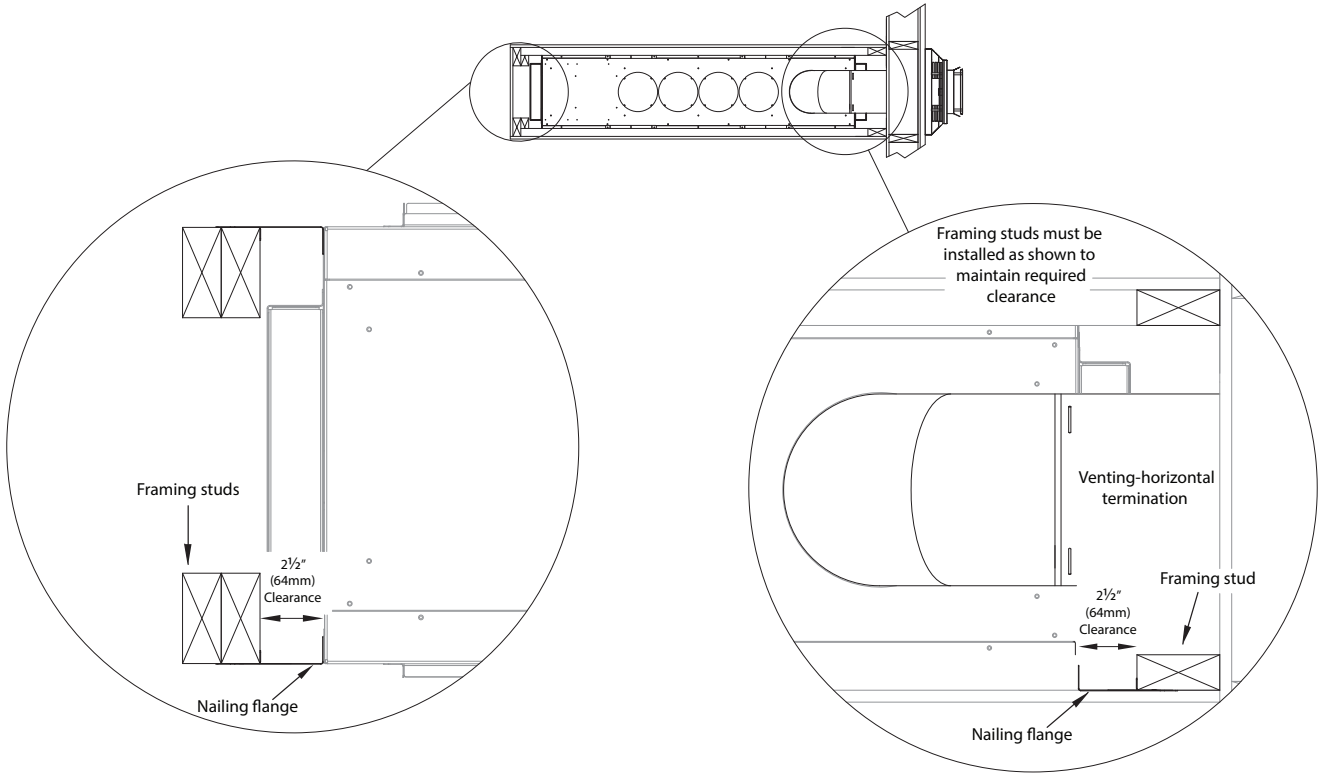

Figure 3.4, Nailing Flange - Horizontal Termination Framing
1. Remove (4) nailing flanges from the right and left side of the fireplace.
5. **UNTIL ALL FRAMING REQUIREMENTS ARE COMPLETED:** Position framing stud against the small stand-off (located on backside of nailing flange). Secure with nails or screws. For securing nailing flanges for horizontal terminations at the vent pass-through, refer to Figure 3.4 on page 14.